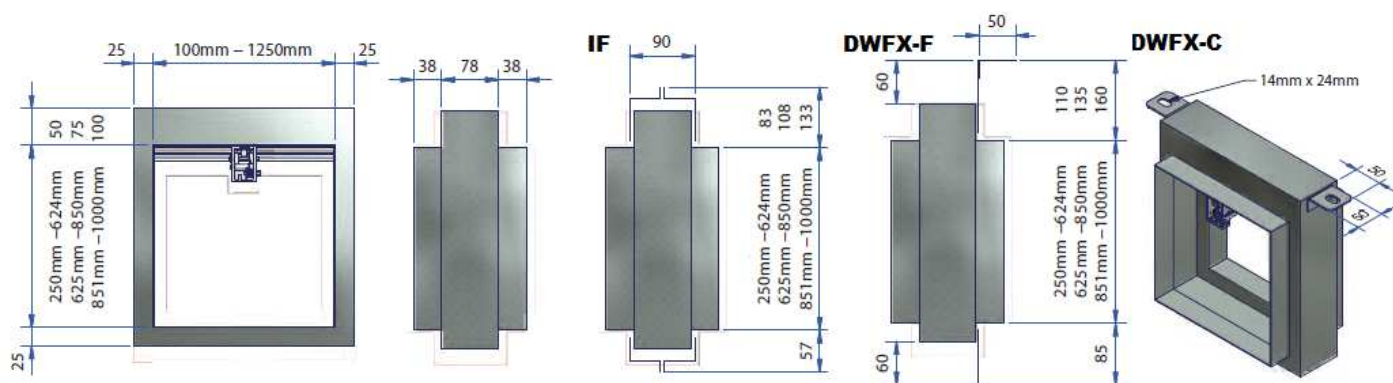

Figure 2. Series 201 with the curtain out of the airstream
- Series 201 (fig. 2) – from 100 x 250 to 1,250 x 1,000 mm